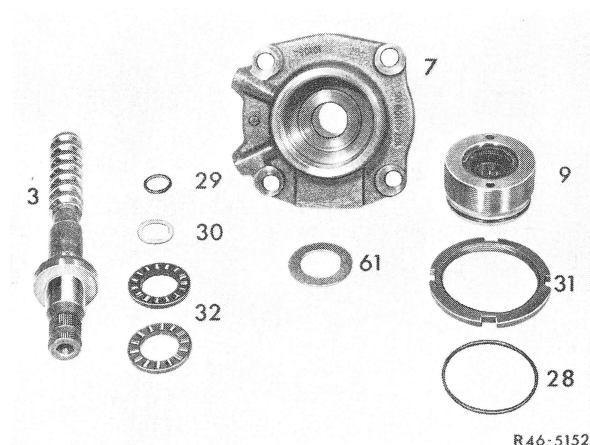

Fig. 1
1 Check ball paths on steering worm (3). If traces of wear are shown, replace steering (Fig. 1).
2 Remove sealing ring (30) and O-ring (29) from steering worm (Fig. 1).